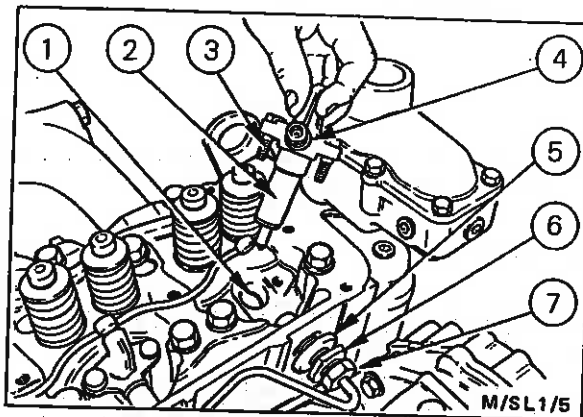

Fig. 17 - Replacing Injector
1. Ensure that the cylinder head injector aperture is thoroughly clean, then fit new sealing washer - see Fig. 17.
3. Insert the injector into the cylinder head and fit but do not tighten the securing bolts - see Fig. 17.